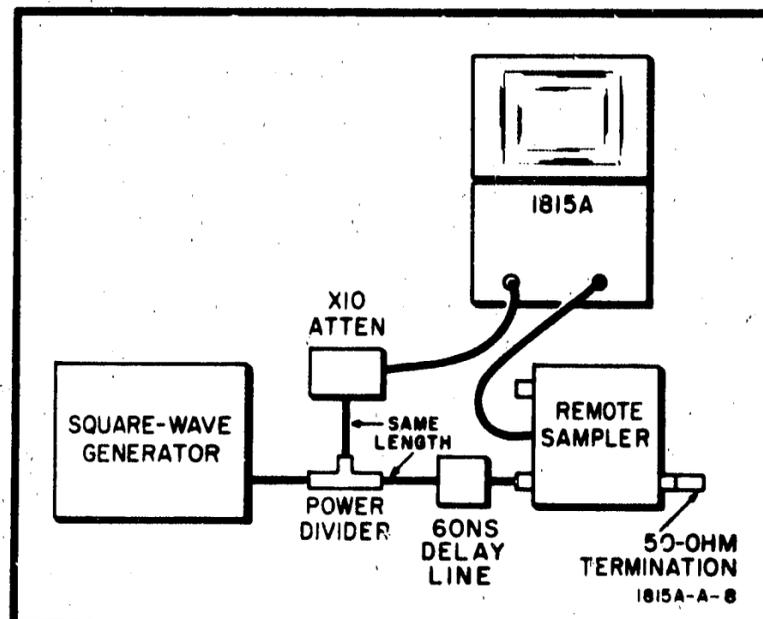

Figure 5-4. Pulse Triggering Test Setup
- a. Connect the equipment as illustrated in Figure 5-4.